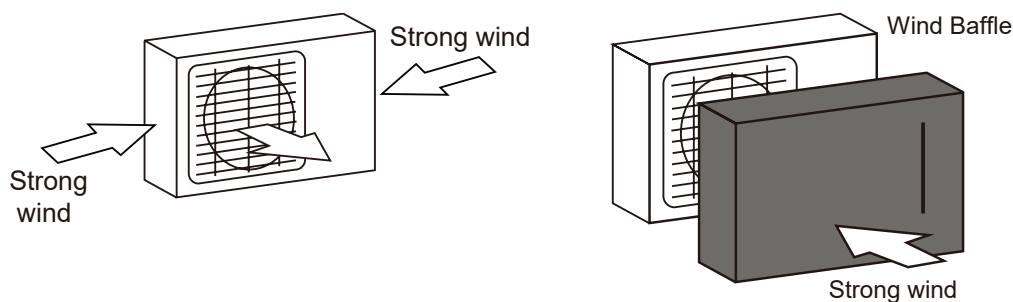

Figure 2.
- For installations prone or exposed to strong prevailing winds or breezes such as coastal areas, please ensure that the unit is sited appropriately, by placing it lengthwise along the wall to reduce any negative impact on the condenser fans. Refer to "Figure 2." on page 25.
Install unit so that air outlet fan is at a 90° angle to the direction of the wind. If needed, build a barrier in front of the unit to protect it from extremely heavy winds. Refer to Figure 2 below.